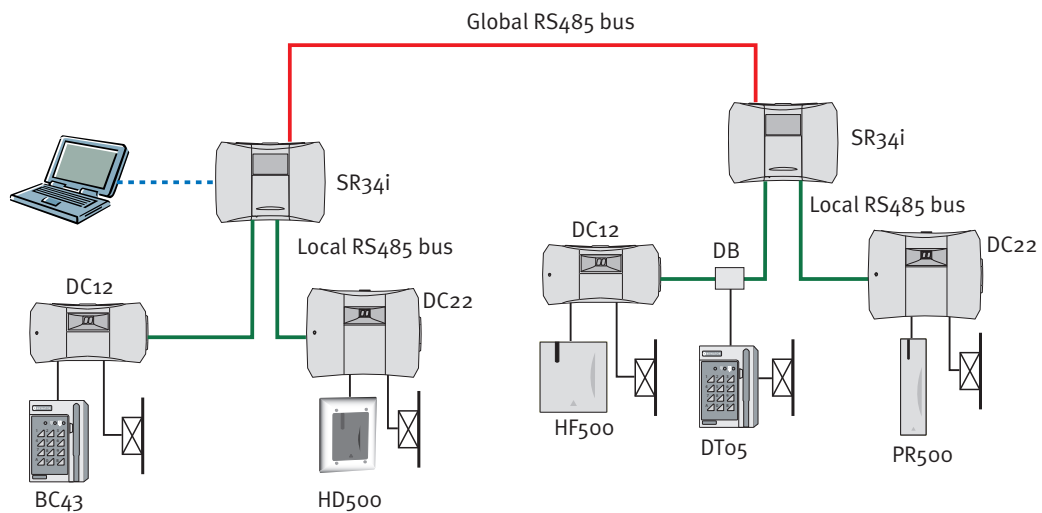

Figure 2 - Facility with RS485 cable
- When one premises has many doors you can still use dedicated cabling. The system is split into separate sections managed by its own SR34i Segment Controller. This handles a couple of doors (local bus). All sub-systems are then linked into a higher level of communication (global bus). See Figure 2 - *Facility with RS485 cable*.